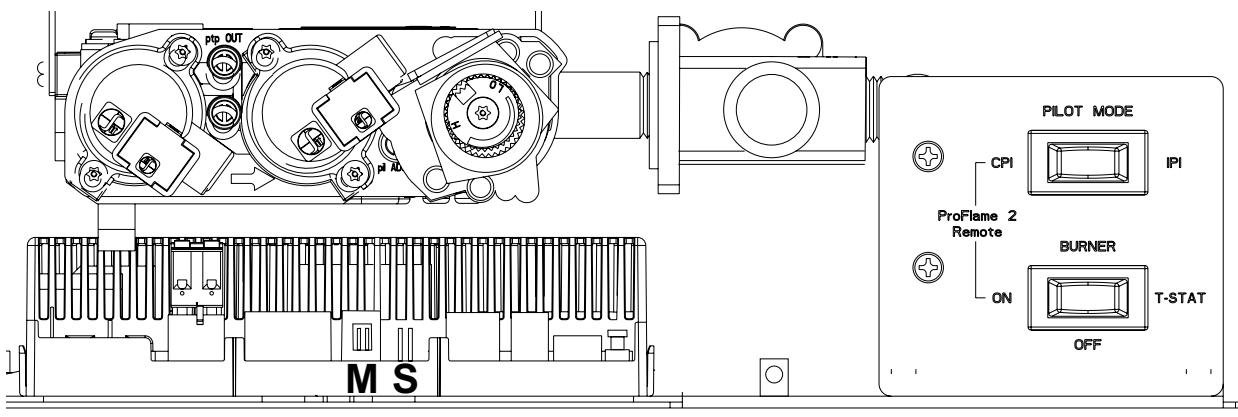

Figure 52a.
4. Connect the short, blue/pink wire lead labelled “S” to the terminal labelled “S” on the front of the IFC board. See fig. 52a.